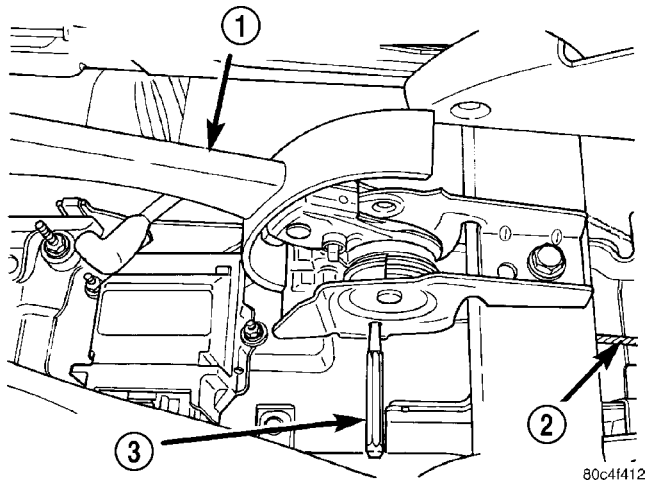

Fig. 3 Pin Punch Installed
- (1) Unclip the air cleaner cover (two clips) and move the cover aside.
- (2) Disconnect and isolate the battery negative cable from its post on the battery.
- (3) Block the tire and wheels so the vehicle does not move once the vehicle parking brake lever is released.
- (4) Remove the transmission shift knob as necessary.
- (5) Remove the screws attaching the center console, then remove the center console.
- (6) Grasp the parking brake lever output cable by hand and pull upward. Continue pulling on the cable until an appropriate sized pin punch (drill bit or locking pin) can be inserted sufficiently through the hole in the left side of the lever mounting bracket (Fig. 3). This will lock the parking brake automatic adjustment mechanism in place and take tension off the parking brake cables. Slowly release the output cable. There should now be slack in the cables.